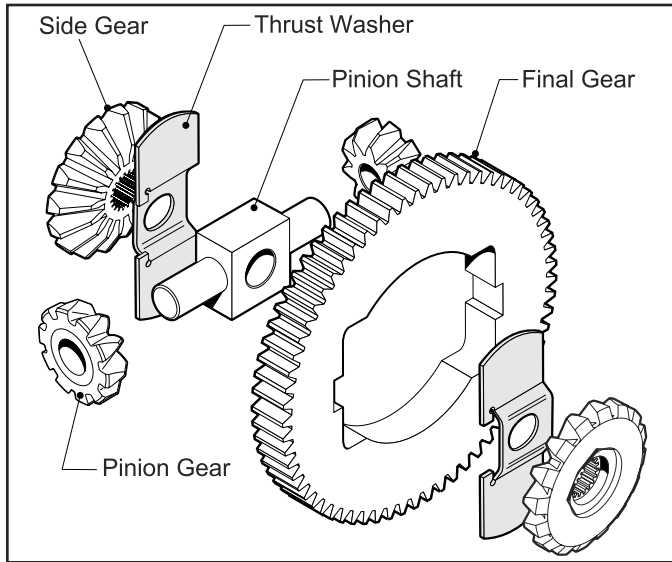

Fig. 17, Differential Gear Assembly
1. Remove the Differential Side Gears, Thrust Washers, Differential Pinion Gears, and the Differential Pinion Shaft from the Final Gear. (Fig. 17)